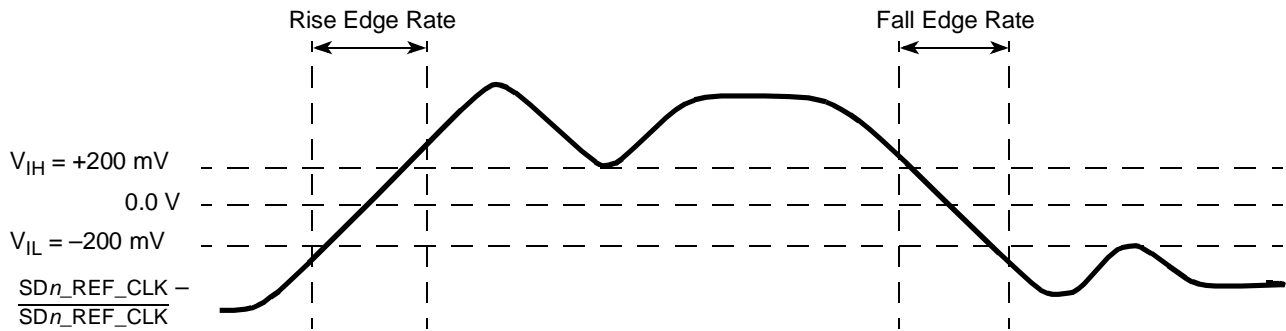

Figure 50. Differential Measurement Points for Rise and Fall Time
3. Measured from -200 mV to +200 mV on the differential waveform (derived from $\overline{\text{SD}}_{\text{REF_CLK}}$ minus SD $\overline{\text{REF_CLK}}$). The signal must be monotonic through the measurement region for rise and fall time. The 400 mV measurement window is centered on the differential zero crossing. See Figure 50.